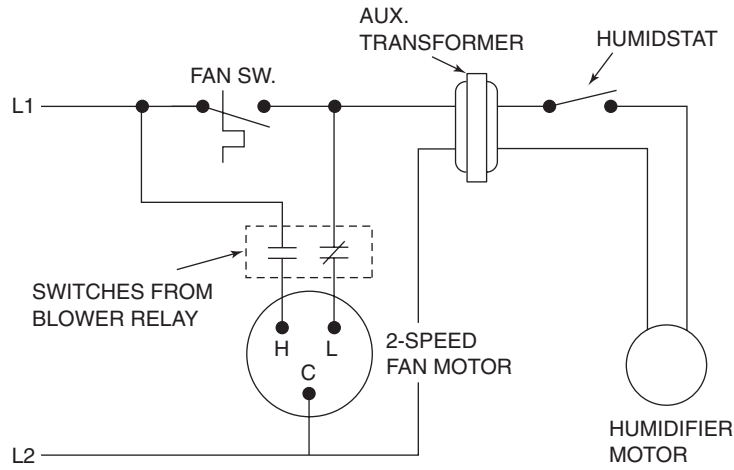

FIGURE 28-8 Humidifier wiring with two-speed furnace fan.
rotate through a pan of water, where the pad is continuously wetted (the level of water is maintained by means of a water supply through a mechanical float valve). Figure 28-8 shows the wiring diagram to control this system. The furnace fan runs under two different circumstances:
5. Referring to Figure 28-8, what two conditions must be met for the fan motor to operate at low speed?